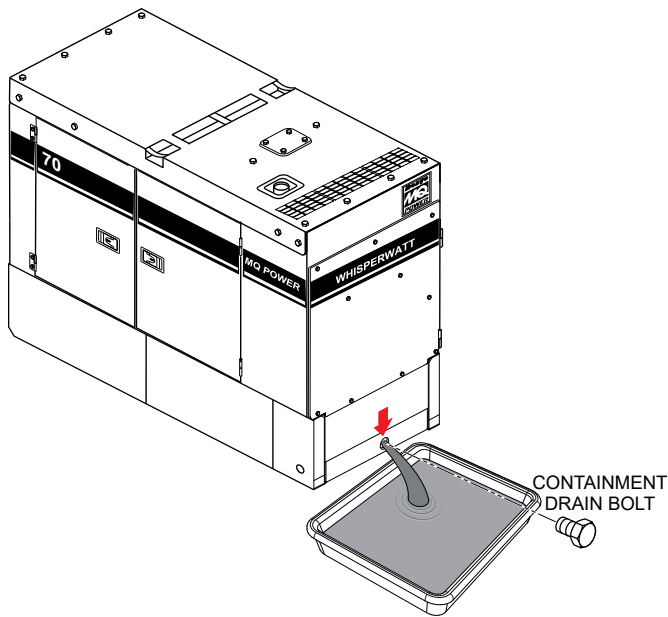

Figure 125. Draining The Containment Tank
2. If the tank becomes full with fluids, remove the **containment tank drain bolt** (Figure 125), then allow the fluids to drain into a suitable container.